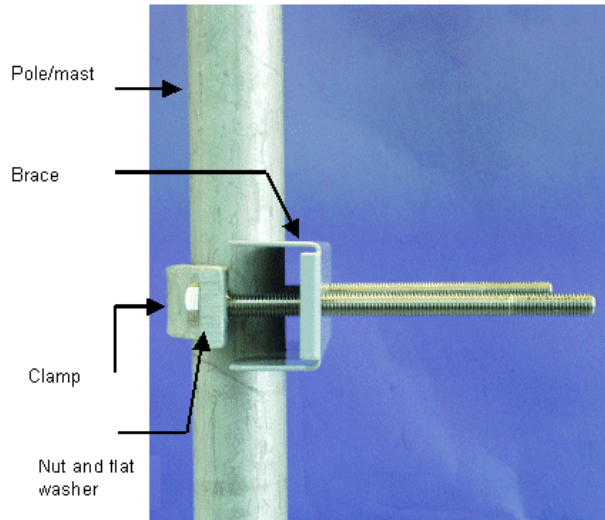

Figure 5-5: Attaching Brace and Clamp (one shown)
4. Referring to Figure 5-5, assemble the two mounting braces and V-clamps to the pole/mast, each with two M10 x 160 mm hex head bolts and M10 flat washers.